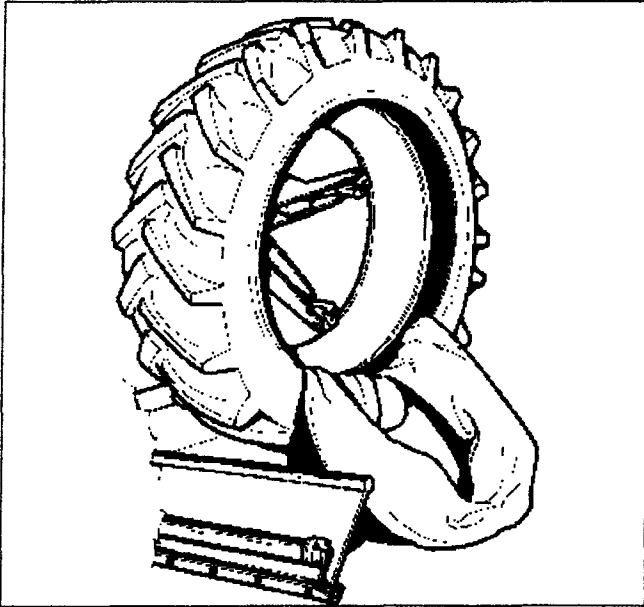

Fig.49
9. Lift the toolholder arm to the rest position. If the tyre is tube type, move the toolholder carriage all the way out: this operation allows you to pull the tube out much easier (Fig.49).